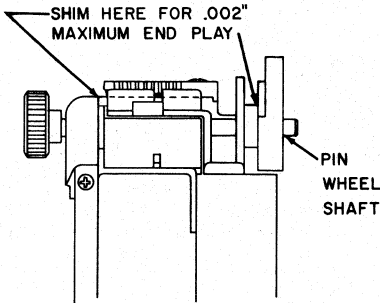

Figure 9
1. The front pin wheel shaft assembly should have no more than .002" end play between the bearings (Figure 9). Shim the assembly, locating the pin wheel so that a tape in the reader has its code holes centered over the feeler pins.